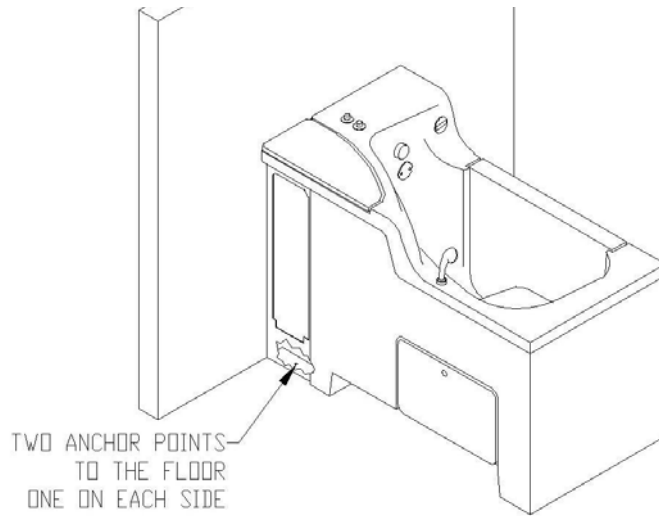

Figure 12
4. There are two anchor holes provided in the fiberglass return flange of the tub. One on each side, just inside the side access doors. See figure 12. Install floor anchors through these holes. Two 5/16 x 2 concrete anchor bolts have been provided for this purpose. If the floor is something other than concrete, consult the building engineer for anchor selection.